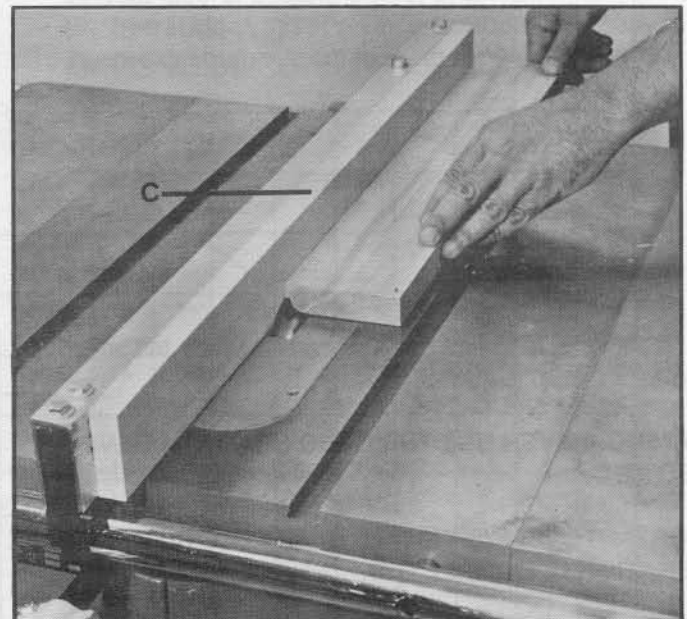

Fig. 65
It is necessary when using the moulding cutterhead to add wood-facing (C) to the face of the rip fence, as shown in Fig. 65. The wood-facing is attached to the fence with wood screws through holes which must be drilled in the fence. 3/4 inch stock is suitable for most work although an occasional job may require 1 inch facing.
Position the wood-facing over the cutterhead with the cutterhead below the surface of the table. Turn the saw on and raise the cutterhead. The cutterhead will cut its own groove in the wood-facing. Fig. 65, shows a typical moulding operation. **NEVER USE MOULDING CUTTERHEAD IN A BEVEL POSITION.**